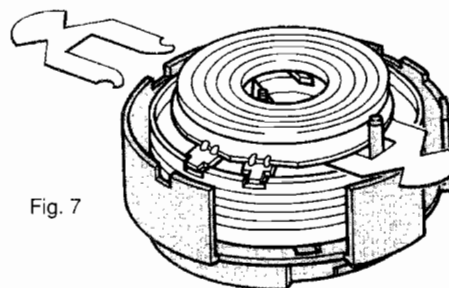

Fig. 7
- Insert the 2 Mylar foils (included with each head disc) in the head disc. (Fig.7)